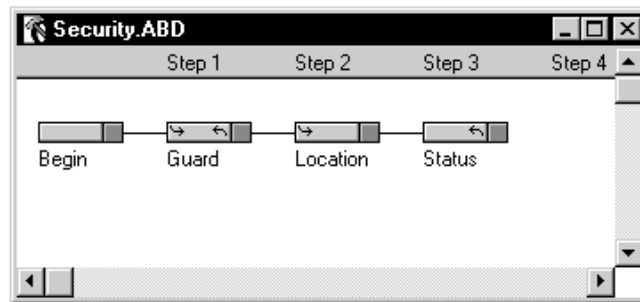

Figure 4-29 Security.abd Application
1. Open the Security application that you built in Chapter 3 (Figure 4-29). Note: If you added the “Error” Handler in the previous example, delete the “Error” Handler by selecting it and either pressing **Delete** from the computer’s keyboard or choose **Delete Handler** from the **Edit** menu. The application window should appear similar to Figure 4-29.